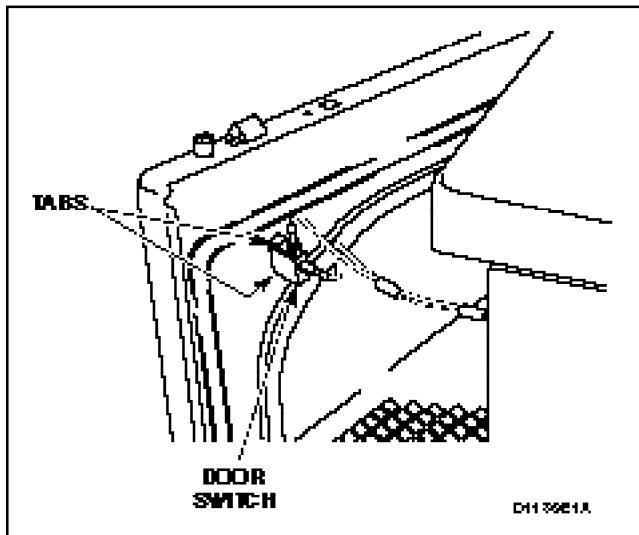

Figure 21
- Disconnect wires from door switch, *Figure 21*.
- Depress tabs on top and bottom of switch and push out of front panel, *Figure 21*.
- Depress tabs on top and bottom of catch and push out of front panel, *Figure 21*.